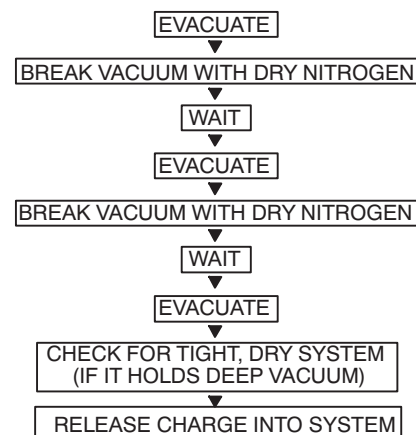

Fig. 9 —Triple Evacuation Method
Refer to Fig. 9 and proceed as follows:
5. Repeat this procedure as indicated in Fig. 9. Afterwards the system will be free of any contaminants and water vapor.